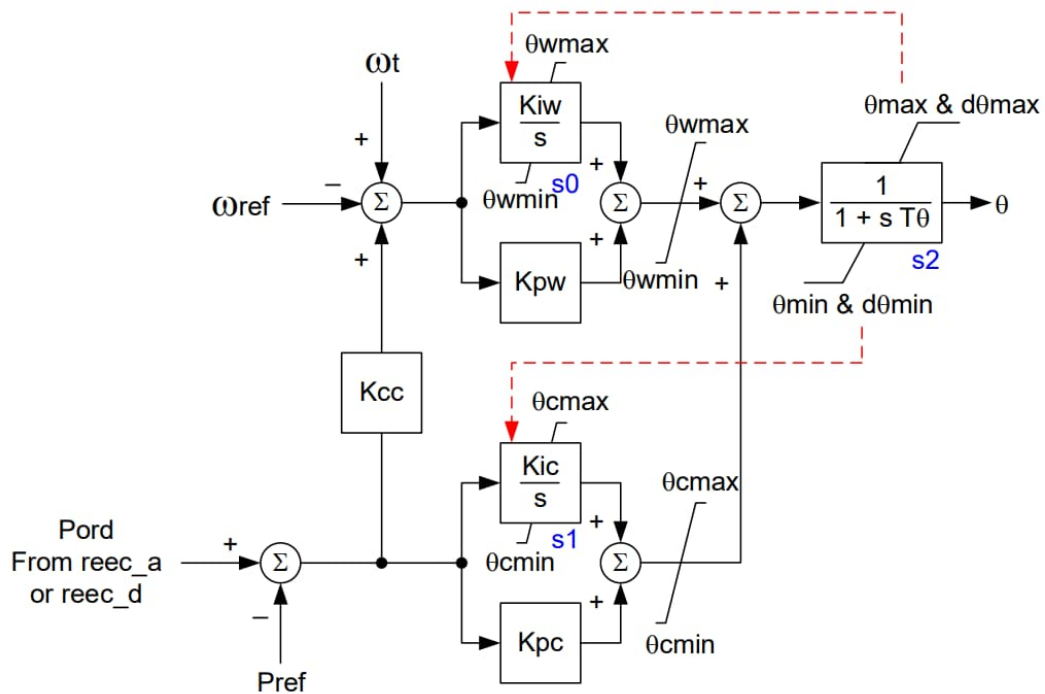

Figure 3 WTGP_B model [1].
2. WTGP_B – which is the pitch-control model (see Figure 3). This model is used for type 3 WTG plants.